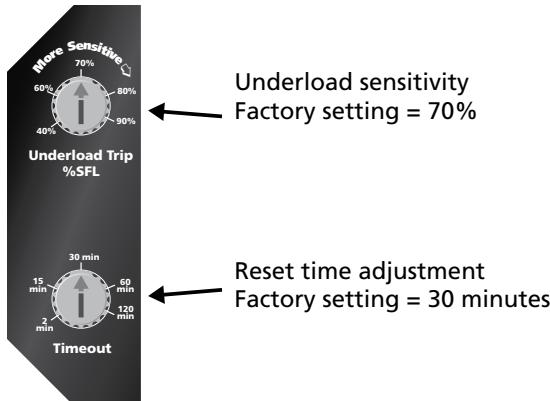

Figure 4: Time-out and Trip Sensitivity Settings
- Set the time-out adjustment to the desired position. The factory setting is 30 minutes (see Figure 4).